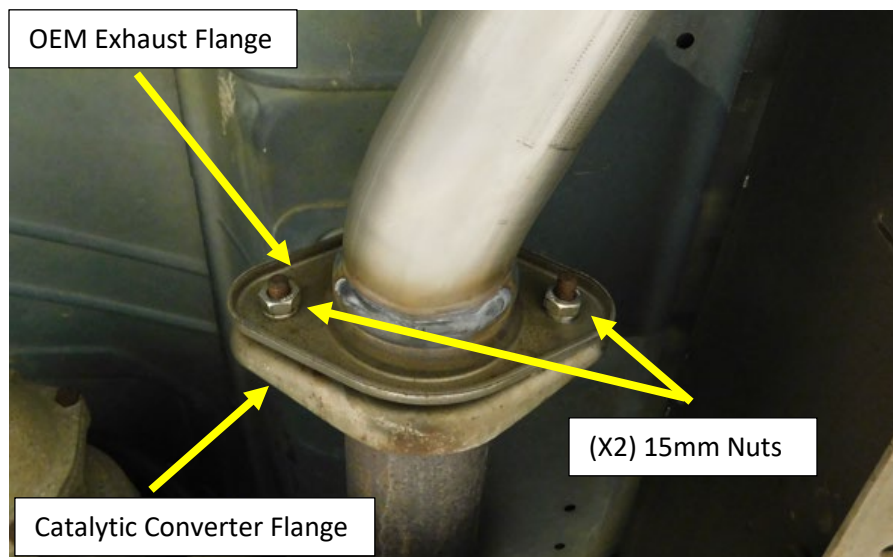

Figure.1
5. Remove the (x2) 15mm nuts at the catalytic converter Flange . **Fig.1**